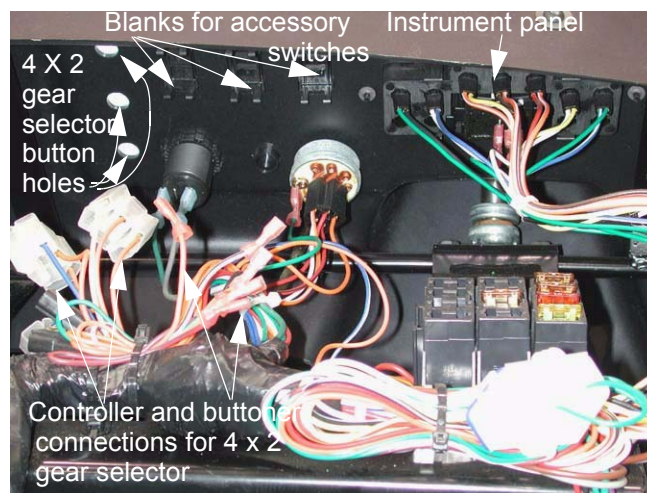

Figure 3.10
- 3.10. The 4 X 2 and the 6 X 4 use the same wiring harness. The 6 X 4 has a mechanical gear selector system while the 4 X 2 has an electrically controlled, vacuum actuated gear selector system. The harness connections that join the push-button gear selector to the main harness in the 4 X 2 exist in the 6 x 4 as well. They are secured behind the dashboard, but are not connected to anything. See Figure 3.10.